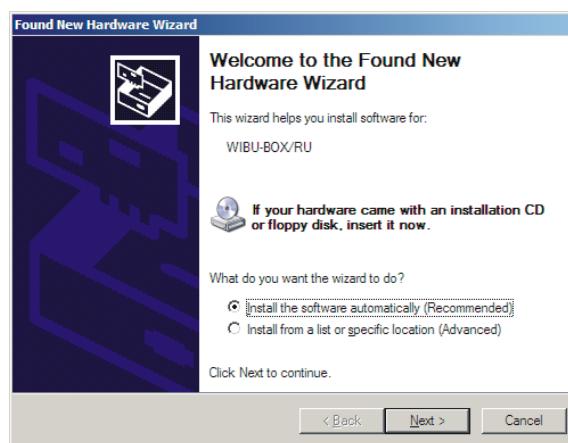

Figure 9. Found New Hardware Wizard
2. Microsoft Windows automatically detects the Dionex ICS-900 and launches the Found New Hardware Wizard (see Figure 9).